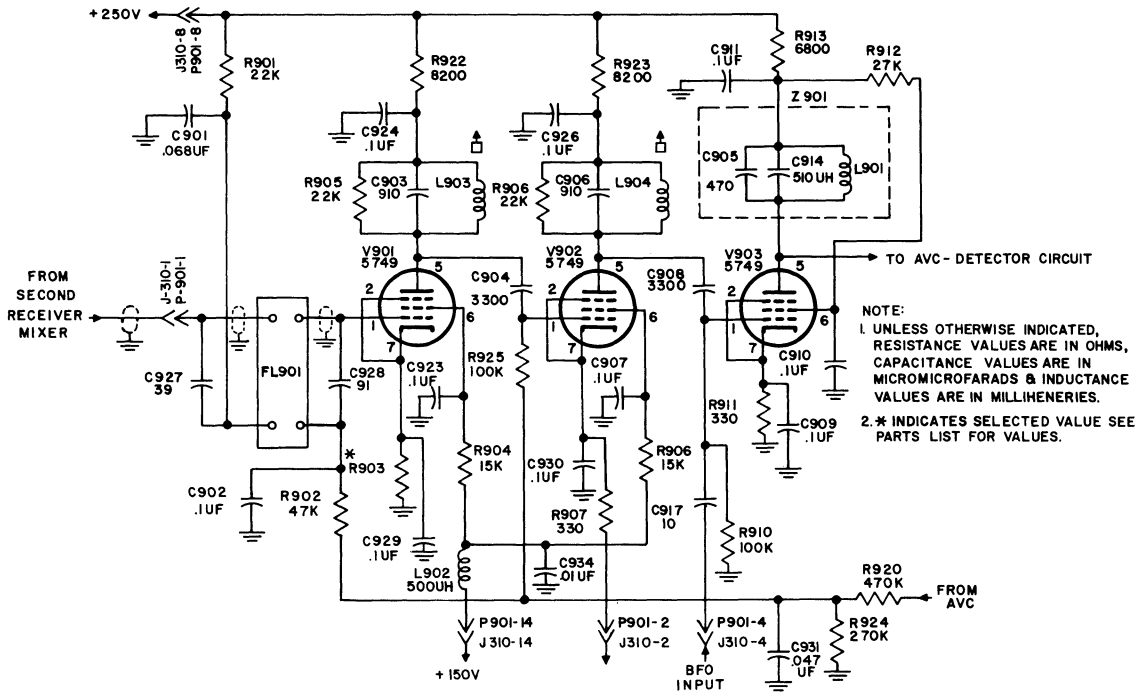

Figure 4-32. 250 Kc I-F Amplifier with Squelch and Selcal, I-F Amplifier, Simplified Schematic Diagram
4.9.7.1 I-F AMPLIFIERS. Refer to figure 4-32. The i-f amplifier stages of a 250 kc i-f amplifier assembly are the same as were described under paragraph 4.9.6.1 except for the variations caused by the addition of squelch and selcal circuits. The plate circuit of the second receiver mixer, V1006, located in the tuner unit is completed through a mechanical filter, FL901. This filter has a center frequency of approximately 250 kc and a bandwidth of 6 kc. Output of the filter is coupled to the grid circuit of V901.